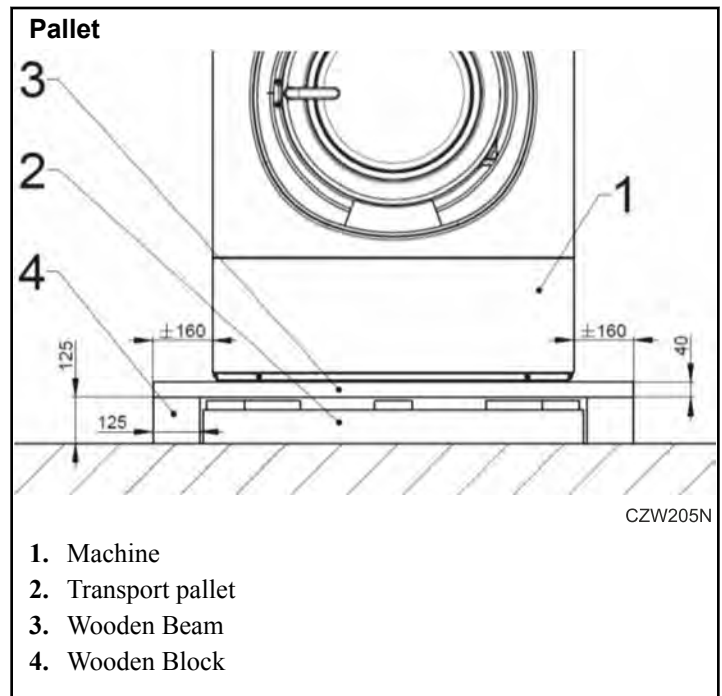

Figure 12
Move the machine from the storage to the install area with a low-level pallet jack. The machine (1) is delivered bolted onto the transport pallet (2) and packed in shrink-wrap foil or box. Below handling should be executed by 2 persons. Needed materials: Refer to *Figure 12*.
- Length wooden beam = machine width (refer to *General Specifications*) + 2 pcs beams (3) length 6.3 in [160 mm]
- 4 pcs Wooden blocks (4) - height: 4.92 in [125 mm] ; width: minimal 4.92 in [125 mm] ; Length: minimal 5.91 in [150 mm]
18. After levelling is completed, tighten the counter nut (2) securely against machine base. Refer to *Figure 12* .